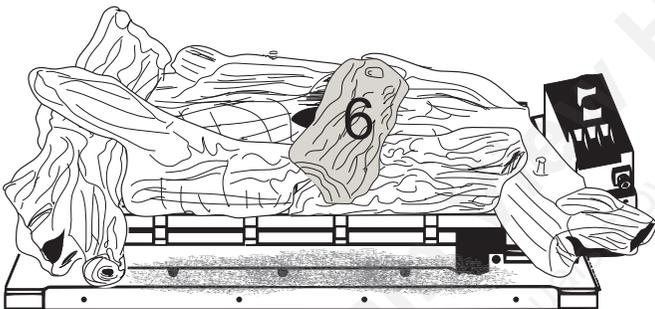

Figure 5.7 - Log #6 Placement
- Hold log #6 with the flat end toward the back. Place log #6 by positioning the pin locator hole on the bottom of the log over the pin on log #2 and set on top of log #4. See Figure 5.7.